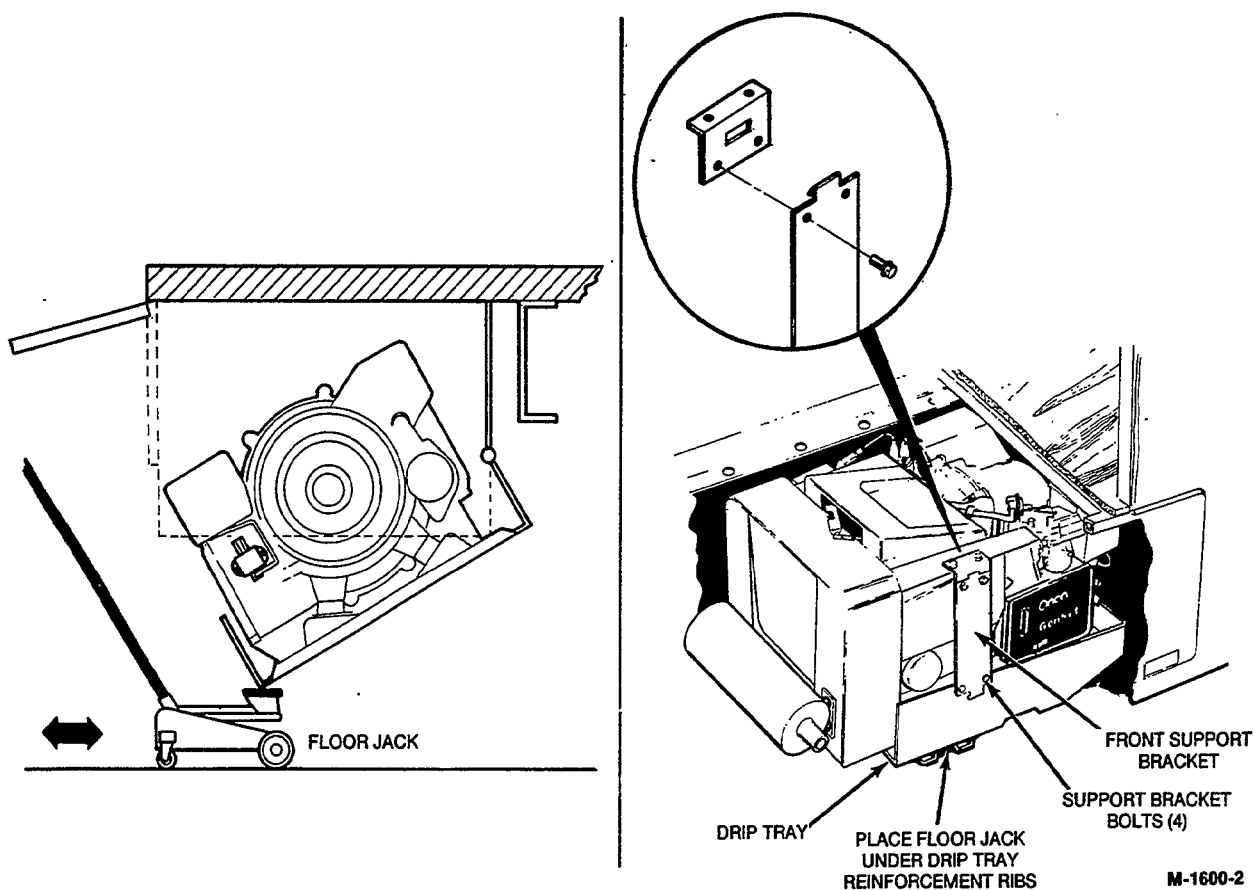

FIGURE 12. LOWERING UNDER-FLOOR MOUNT GENERATOR SET
A floor jack is required to safely lower and raise the generator set. See Figure 12.
6. Use a floor jack similar to the one shown in Figure 12, and position the floor jack under the reinforcement ribs of the drip tray as shown.